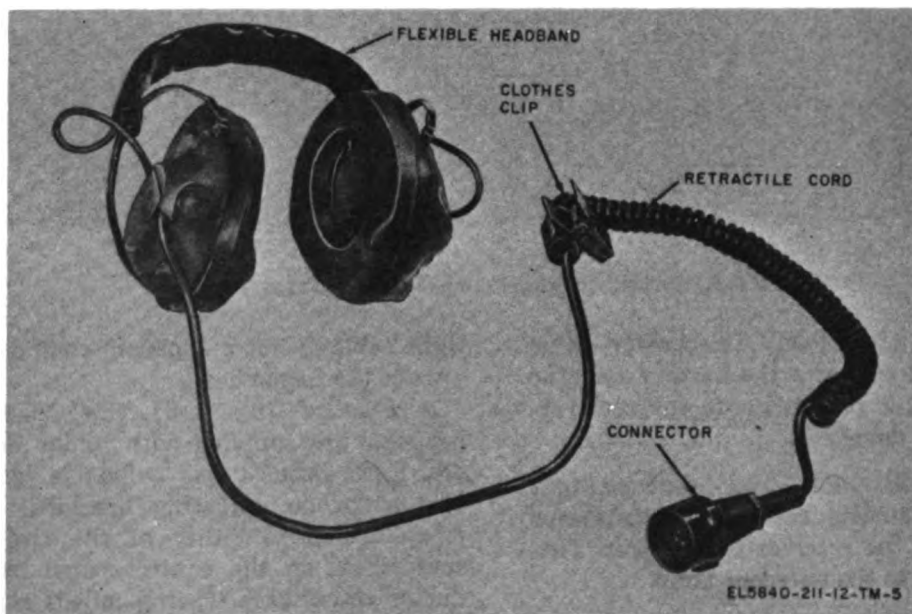

Figure 1-5. Headset, Electrical H-183/PPS-4.
d. Headset (fig. 1-5). Two double-earphone headsets are supplied with Radar Set AN/PPS-4A. Each headset has a flexible headband with two earphone adjusting brackets. The headset is connected to either of the two HEADSET receptacles on the control panel by a two-conductor retractable (spring coiled) cord. A clothes clip mounted on the cord is clipped to the operators shirt or jacket to prevent strain on the cord connected to the headset when the operator moves about and extends the retractable cord.